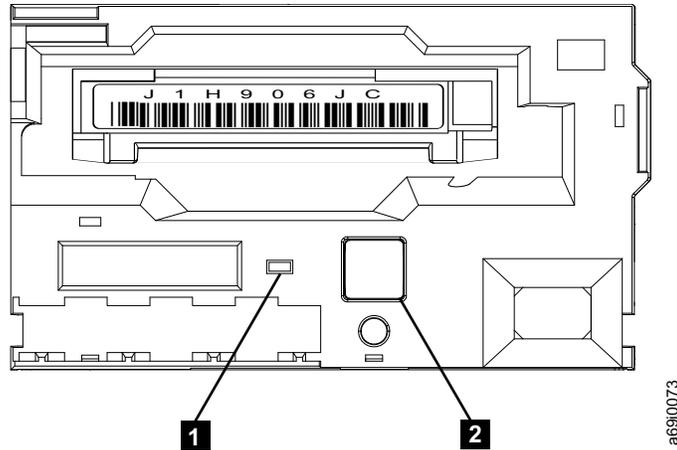

Figure 36. Removing a cartridge from a 3592 tape drive
- a. Ensure that the green power indicator light is on (see 1 in Figure 36 on page 91).